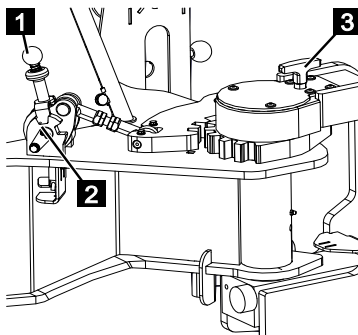

Fig. 128
8. If the outrigger is set to the transport position, you must ensure that the locking lever (Fig.128/1) is positioned fully upright and engaged in the upper-most position (Fig.128/2).
9. Ensure that the securing pin (Fig.128/3) is pushed in fully.